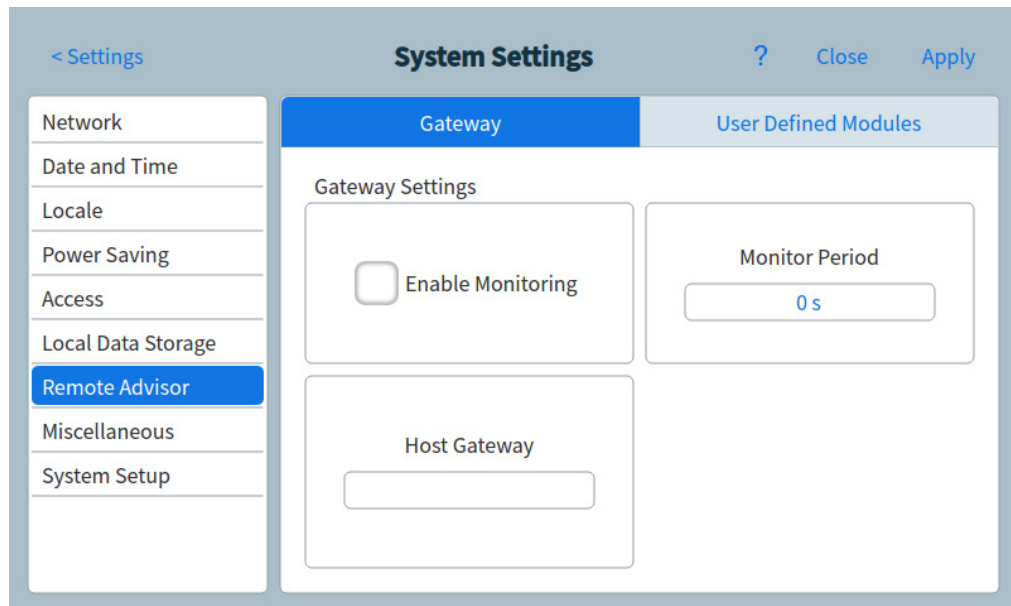

Figure 48. Remote Advisor page
- 1 From the System Settings page, select the **Remote Advisor** page selection button. The Remote Advisor page appears. See Figure 48.